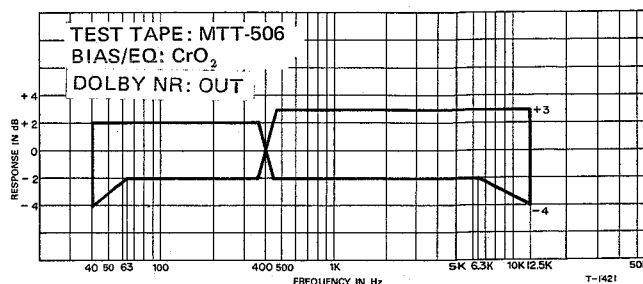

Fig. 6-13 Overall Frequency Response (CrO₂, Forward)
3. Apply and record a test signal as required for frequencies in the Fig. 6-13 at -42 dB (6.15 mV).